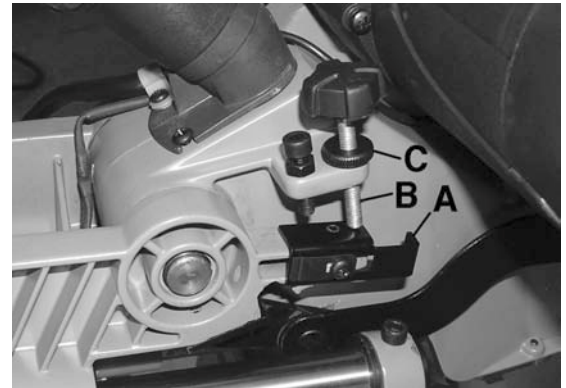

Figure 11
In its normal position, the depth of cut stop Fig.11 permits the saw blade to cut right through a workpiece. When the saw arm is lifted, the depth of cut stop (A) Fig.11 can be slid over towards the front of the saw so that the depth adjustment screw (B) contacts the stop as the saw head is lowered. This restricts the cut to a “adjusted depth” in the workpiece. The depth of cut can be adjusted with the adjustment screw (B) and locked in position with the lock nut (C) Fig.11.